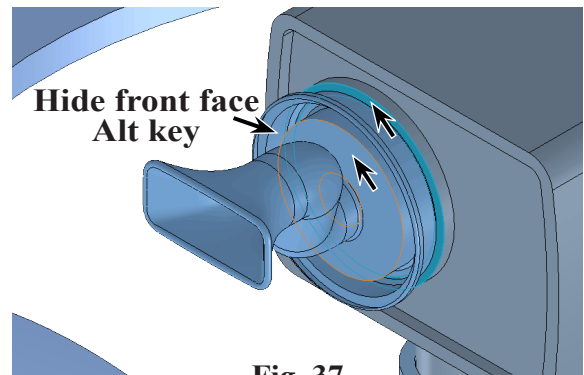

Fig. 37
Step 5. Click **front face of the Pump**, **hide front face of In Pipe** and click **rear face of In Pipe** **Fig. 37**. To hide face, hover cursor over face and press **Alt** key.